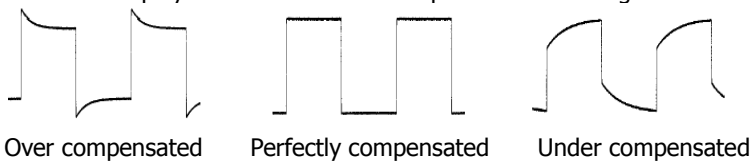

Figure 12 Probe Compensation
2. Check the displayed waveforms and compare them with Figure 12.